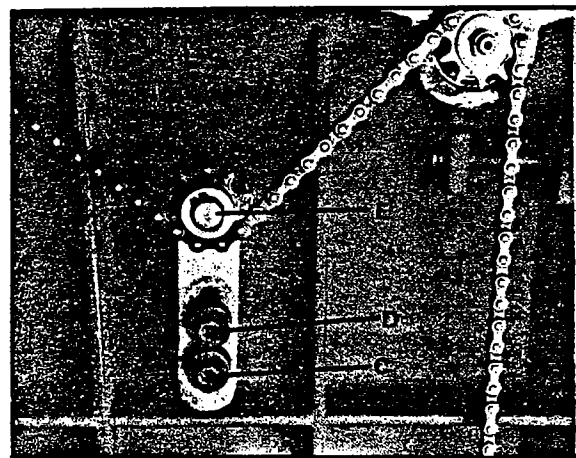
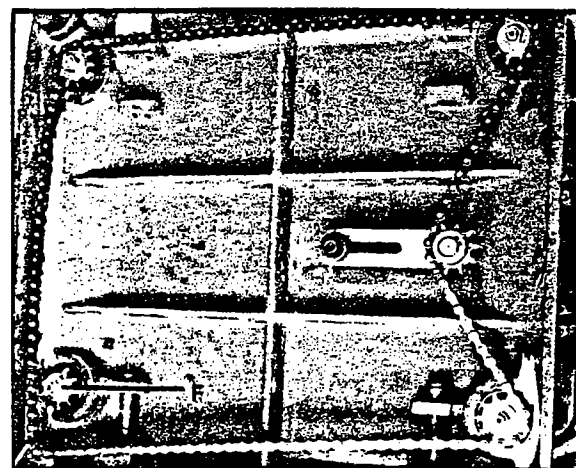

Fig. 35
Fig. 36
5. If head casting is not parallel to table, tilt planer on its side as shown in Fig. 35. Remove bolt (C) and loosen bolt (D) Fig. 35, which will allow you to move the edler sprocket assembly (E) far enough to release tension on chain as shown in Fig. 36. Remove chain from sprocket on end of headcasting that must be adjusted. In this case chain has been removed from sprocket (F).
6. Turn sprocket (F) Fig. 36, by hand to bring that corner into adjustment with other three corners. **IMPORTANT: THIS ADJUSTMENT IS VERY SENSITIVE AND IT SHOULD NOT BE NECESSARY TO TURN THE SPROCKET MORE THAN ONE OR TWO TEETH.** Turning sprocket (F) clockwise will decrease the distance between the table and headcasting. Counter-clockwise will increase the distance.